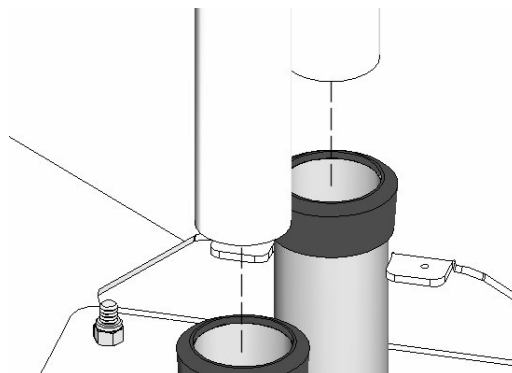

Figure 4. Install Tubes
6. Install covers and secure using four screws (see Figure 4).
7. Install upright tubes into base (see Figure 4).